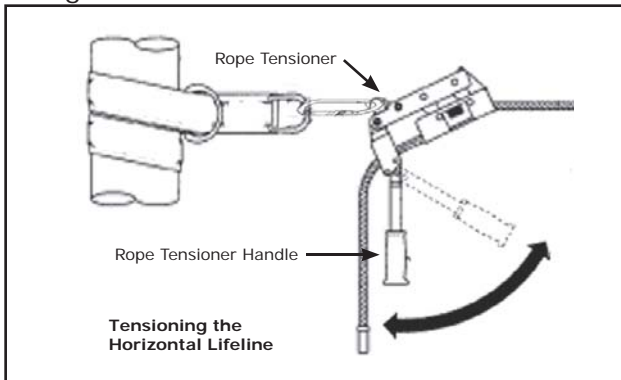

Figure 8
Step 4. Remove the slack from the horizontal lifeline by pulling the rope through the tensioner by hand. To tension the horizontal lifeline, pull the handle back and forth until tensioning is no longer possible. Do not modify the rope tensioner to achieve greater lifeline tension. See Figure 8. The final tension will be 75 to 100kgs.